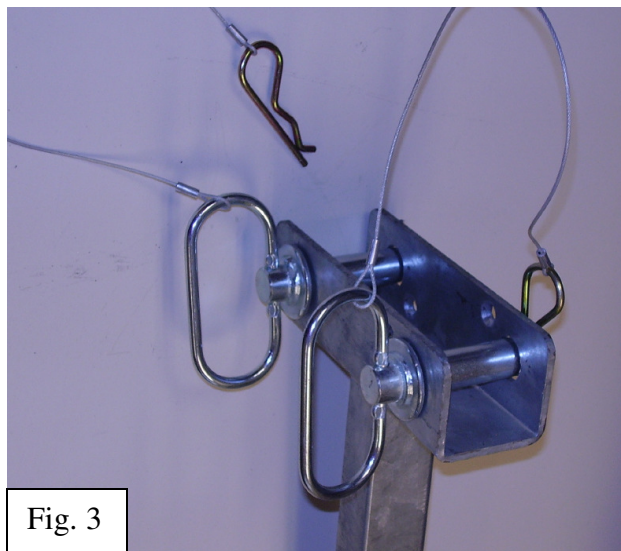

Fig. 3
3. Insert **702181-1 Pin; Hitch 75 x 2.5 W / Lanyard** into existing holes and secure with supplied retaining pin. See Fig 3